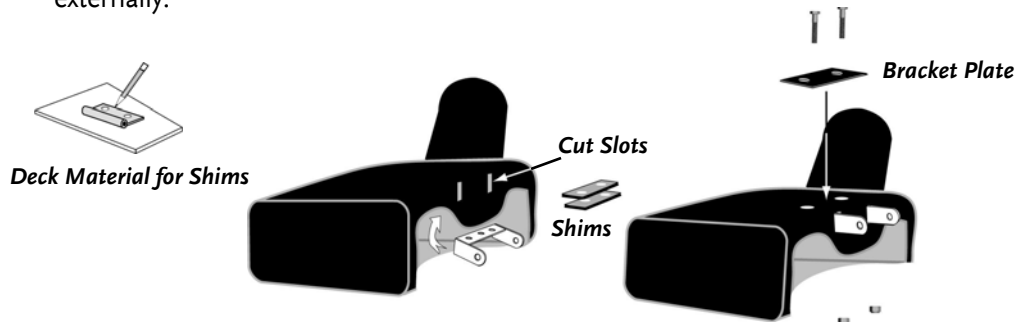

Figure 32
- Slot the Universal Deck Adapter (**Figure 32**) to receive the Hinge Plate Arms. You can do this by drilling 1/4" holes at the top and bottom of the slot locations and inserting the Saw Blade into the hole to remove the remaining material or cutting directly from the edge of the contour.
- Shims (**Figure 32**), made by tracing the outline and hole locations of the Bracket Plates or Mower Deck Hardware onto a piece of material that was cut out of the Universal Deck Adapter, are then placed beneath the hardware to bring it to level.
- The Universal Deck Adapter Hinge with appropriate shimming, is inserted into the slots and then bolted to the under side of the Universal Deck Adapter (**Figure 32**) with the Backing Plate mounted externally.